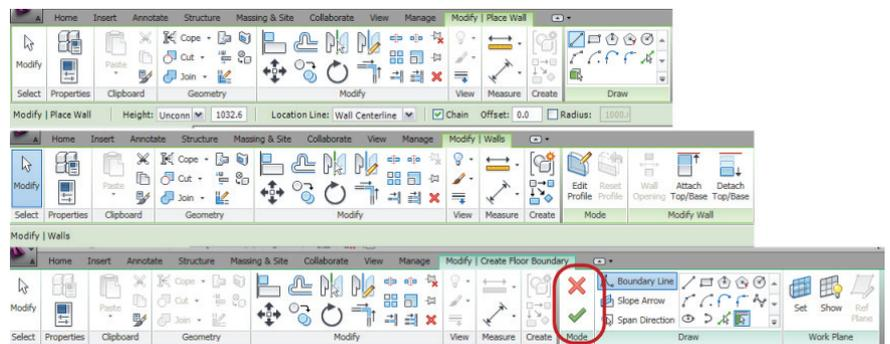

Figure 2: The Modify tab shows up in combination with placement or editing tools.
- Figure 2 shows Modify/Place/Create Floor Boundary tabs from Revit Architecture. Cancel/Finish icons are highlighted in their new location.